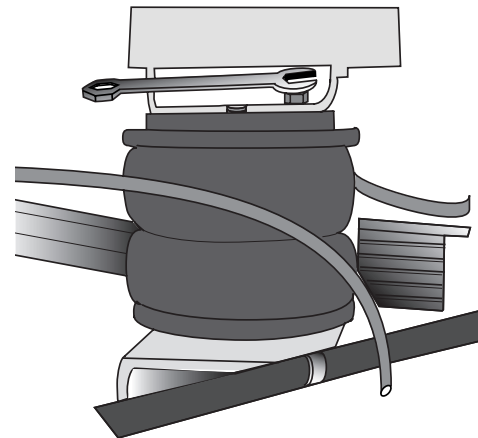

Fig. 16
- Tighten both air springs to top bracket mounting bolts (Fig. 16).